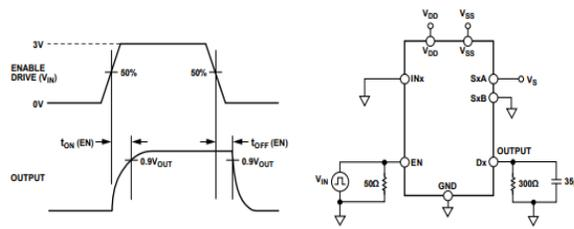

Figure 19. Enable Time Test Circuit
The delay between the 50% level of the enable digital input (EN) and the 90% of the output switching on as shown in Figure 19.
The delay between the 50% level of the enable digital input (EN) and the 10% or 90% of the output switching on as shown in Figure 19.